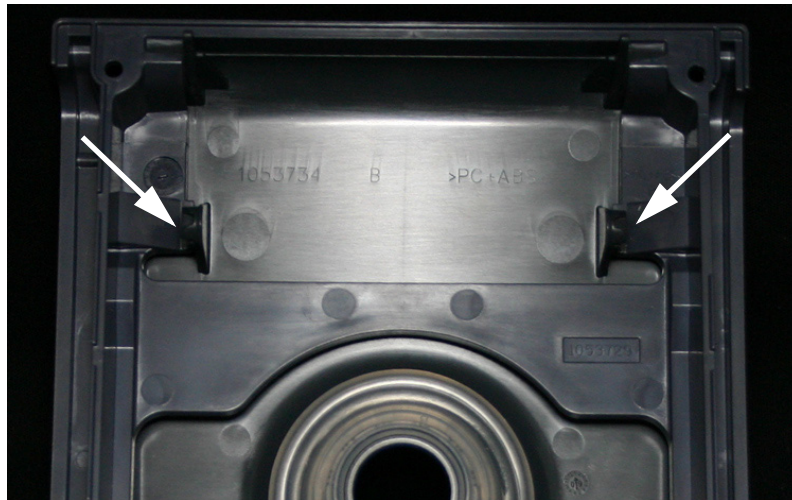

FIGURE 7-7: FLIP LID ASSEMBLY REMOVAL
2. Using a screwdriver or similar probing tool, push in on the latches that secure the Flip Lid Assembly to the Humidifier Top Housing. Refer to Figure 7-7.